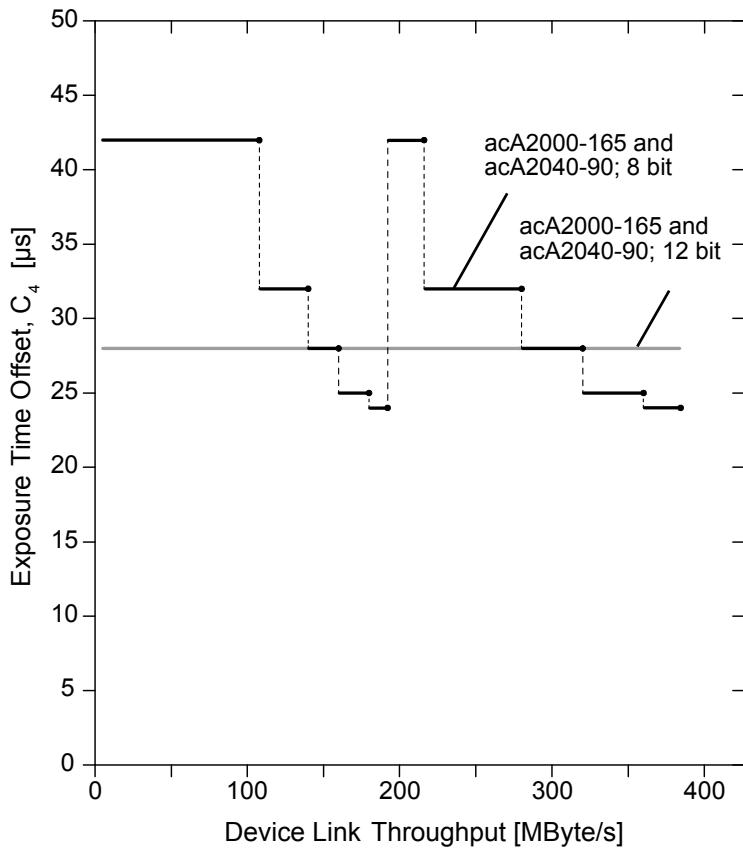

Fig. 59: Exposure Time Offsets Depending on Device Link Throughput (acA200-165u and acA2040-90u Cameras Only; All 8 bit- and 12 bit-Pixel Formats)
For exposure time offsets, C_4 , and their dependencies, see Table 32 and Figure 59.
1. Subtract the value for C_4 (see Table 32 and Figure 59) that applies to your camera model, from the wanted exposure time.